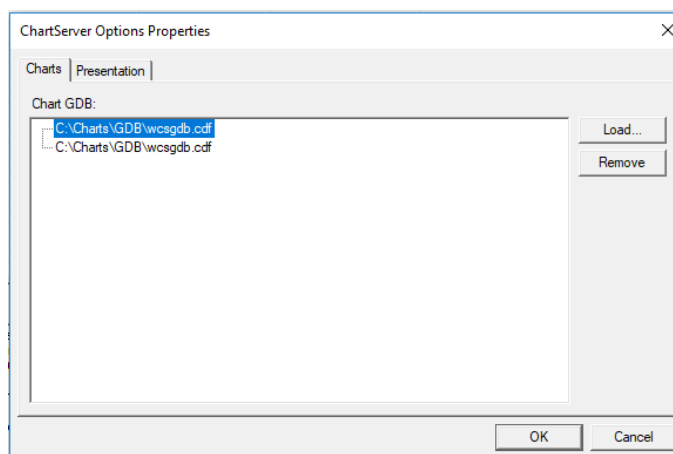

Figure 84: ChartServer Option Properties
5. Click the LOAD button on the ChartServer Options Screen (Figure 84). In the new window, locate the “.CDF” file within the directory tree of the S-63 charts that you are loading.